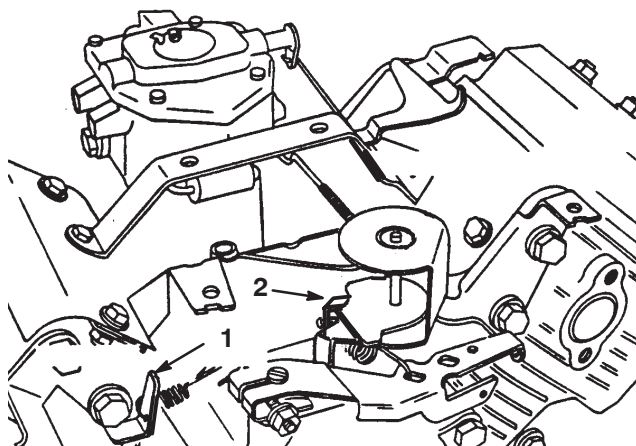

Figure 38
3. Bend the governed idle spring anchor tang (Fig. 38) to attain an idle speed of 1625 ± 50 RPM. Check the speed with a tachometer.
5. Move the throttle control to the Fast position. Bend the high speed spring anchor tang (Fig. 38) to attain a high speed of 2850 ± 50 RPM.